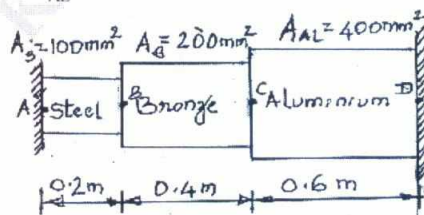

Fig. Q4 (b)
- b. A stepped bar with its both ends fixed as shown in Fig. Q4 (b) is subjected to an increase in temperature of 50°C. Determine displacements and forces at points A, B, C and D. Take Young's moduli of steel, bronze and aluminium as $E_s = 200$ GPa, $E_B = 83$ GPa and $E_{AL} = 70$ GPa respectively. The coefficients of thermal expansions are $\alpha_s = 12 \times 10^{-6} / ^\circ C$, $\alpha_B = 19 \times 10^{-6} / ^\circ C$ and $\alpha_{AL} = 22 \times 10^{-6} / ^\circ C$. (14 Marks)